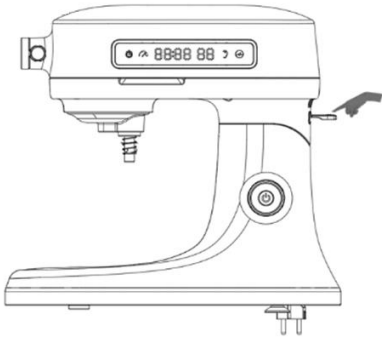

Figure 1
Insert the dough hook (beater/whisk) into the planet shaft so that the square groove of the dough hook is aligned with the planet shaft as shown in FIG 1. At the same time, insert the tool into the slot of the planet wheel shaft, push it slightly upwards and then turn the tool holder counter-clockwise until the shaft pin is aligned with the clip, as shown in Figure 3, i.e. the tool is installed. During installation, the nose should be raised for ease of operation. Once the mixing bowl has been installed, place the nose in a horizontal position as shown in Figure 4 (Note: the machine cannot be connected to the power supply while the kneading hook and other accessories are being installed!)
1. Place the packed machine on the table, hold the head with your left hand, then press the head up button down with your right hand (Figure 1), the head will automatically lift up, the left hand gently holds the head up until it clicks, the machine is fully open and locked (Figure 2).